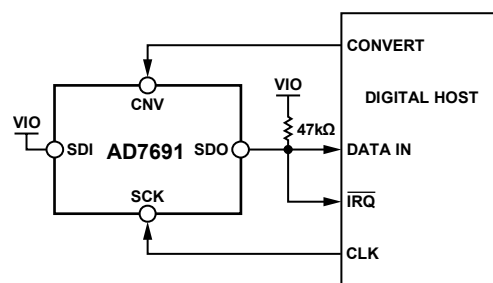
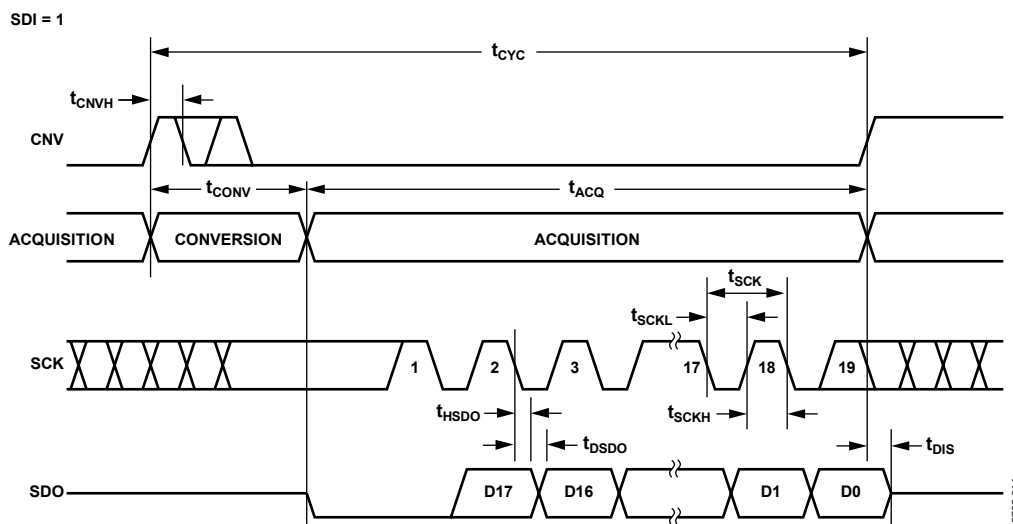
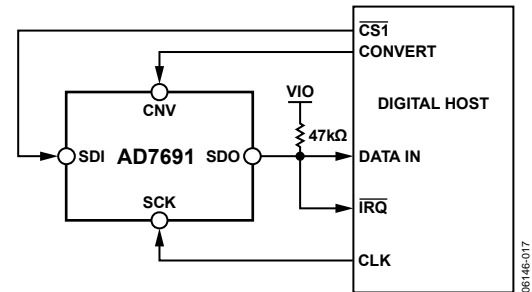
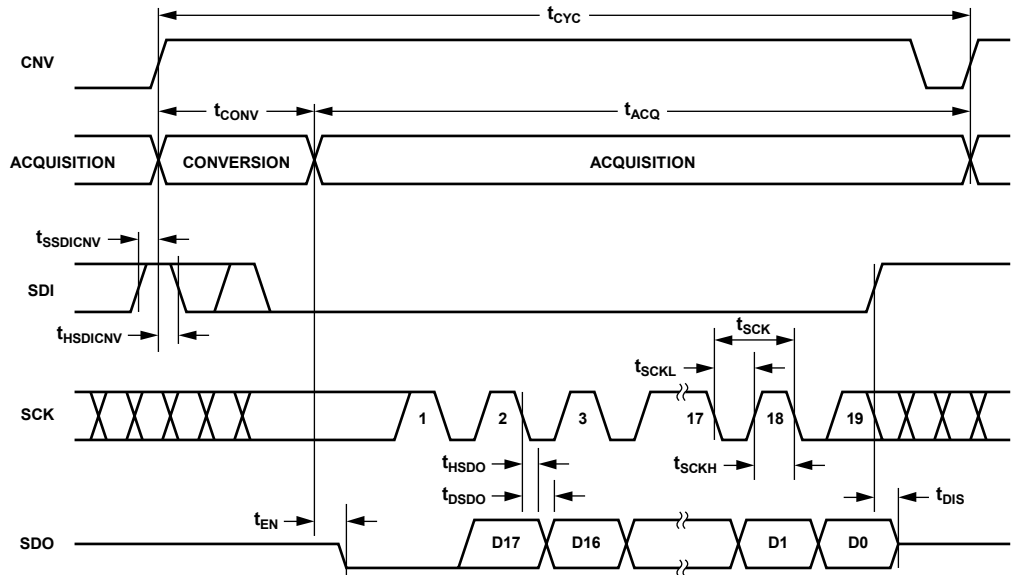

Figure 36. 3-Wire \overline{CS} Mode with Busy Indicator Connection Diagram (SDI High)
Figure 37. 3-Wire \overline{CS} Mode with Busy Indicator Serial Interface Timing (SDI High)
Figure 40. 4-Wire \overline{CS} Mode with Busy Indicator Connection Diagram
Figure 41. 4-Wire \overline{CS} Mode with Busy Indicator Serial Interface Timing
- In the \overline{CS} mode if CNV or SDI is low when the ADC conversion ends (see Figure 37 and Figure 41).
The connection diagram is shown in Figure 36, and the corresponding timing is given in Figure 37.
The connection diagram is shown in Figure 40, and the corresponding timing is given in Figure 41.